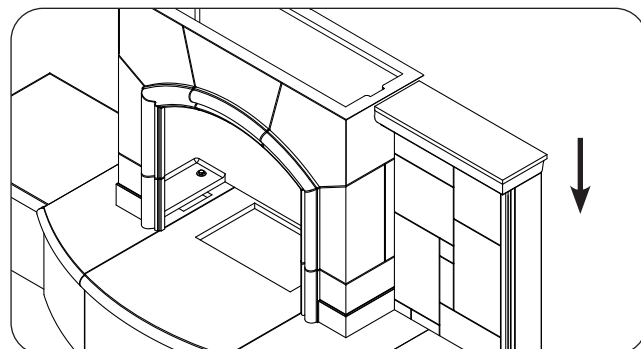

Fig. 25-4 Assemble top side-wall (skip if n/a)
5. Slide the top side-wall piece onto the front and rear side-walls as shown in Fig. 25-4 (no hardware required). This will secure the entire side wall.